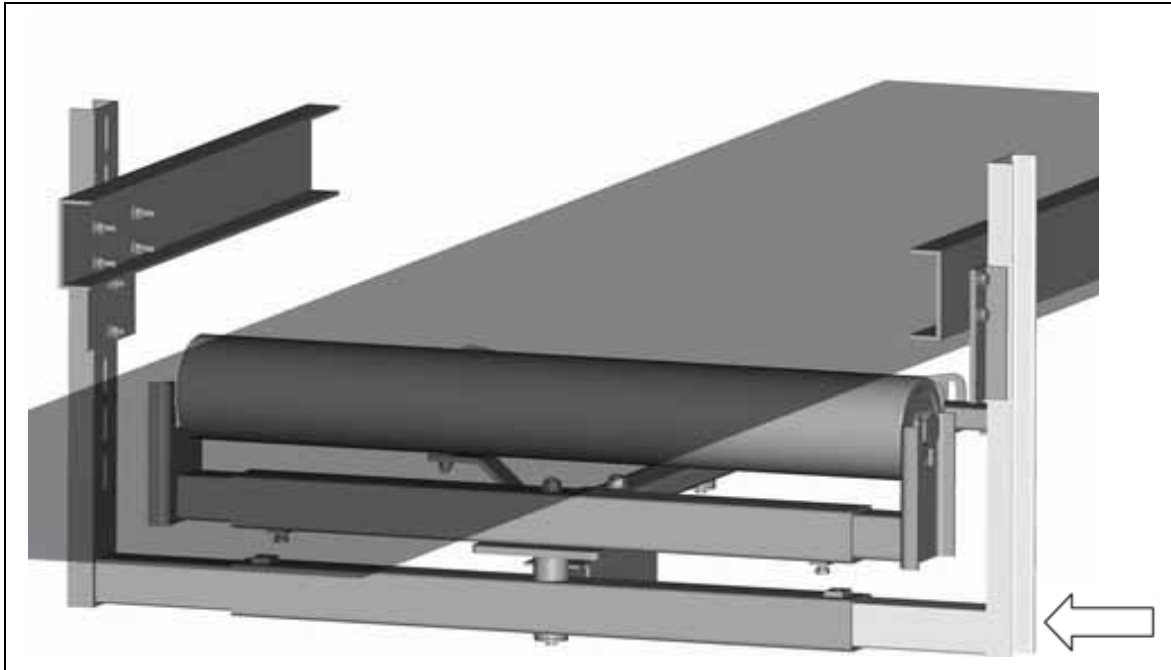

Fig. 9: Positioning the installation frame on the operator side
10. Position the installation frame on the operator side (Fig. 9).